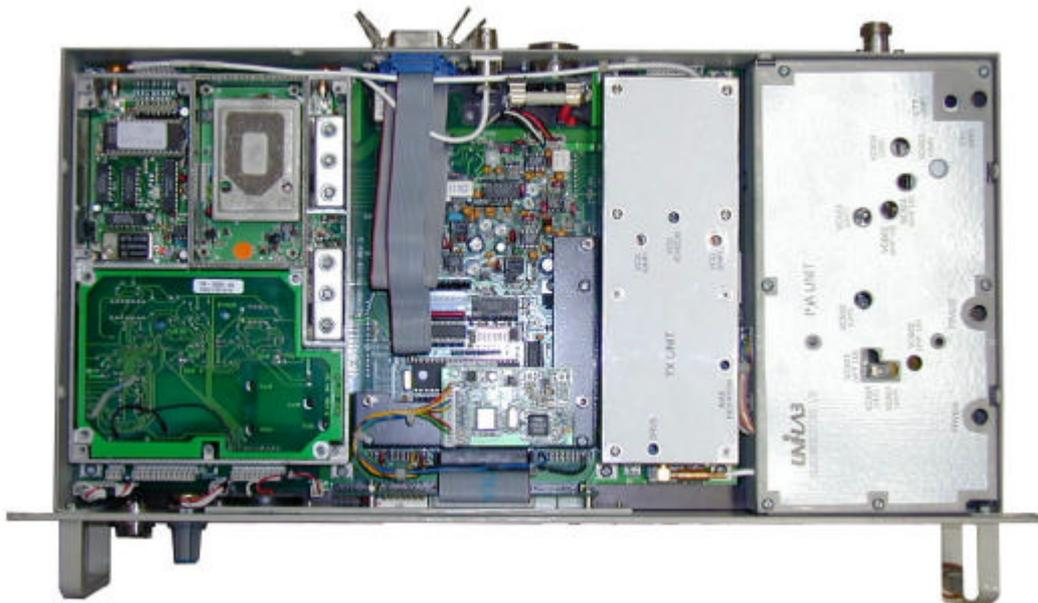

Figure 1
10. Refer to Table 2 or 2a. Note that Table 2 is only shown here as a reference as to the previous connection method (described in AN002-01). When using either a V1.02 or V1.03 A800-SIB in future use the connection methods shown in Tables 2a. Refer to Figure 1 for the location and pin orientation of the connectors CNOP1, CNOP2 & CNO15P. Place silicon tubing over all solder joints. Place cable ties around the wires to keep them tidy. The unused wires on the A800-SIB wiring loom can be removed from the board connector. Keep the removed wires in case they are required at a later date.